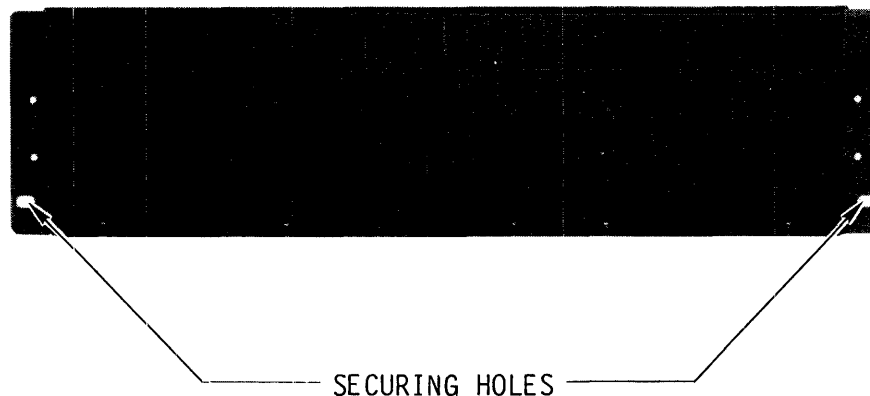

Figure 2-4. Front View of Chassis with Front Panel
- 5) Secure the chassis in the rack by bolting the front flange to the front rails of the rack as shown in Figure 2-4.